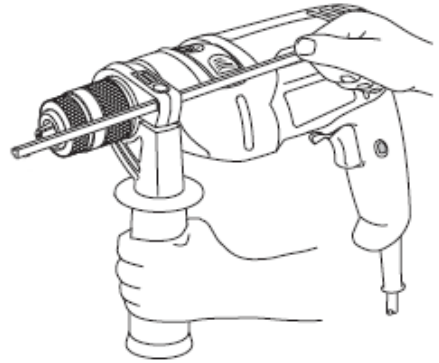

FIGURE 8.3
2. Set the depth gauge (Item 8 - figure 7.1) in the mounting hole as illustrated in figure 8.3. Set the desired drilling depth, tighten the handle support turning the handle clockwise.